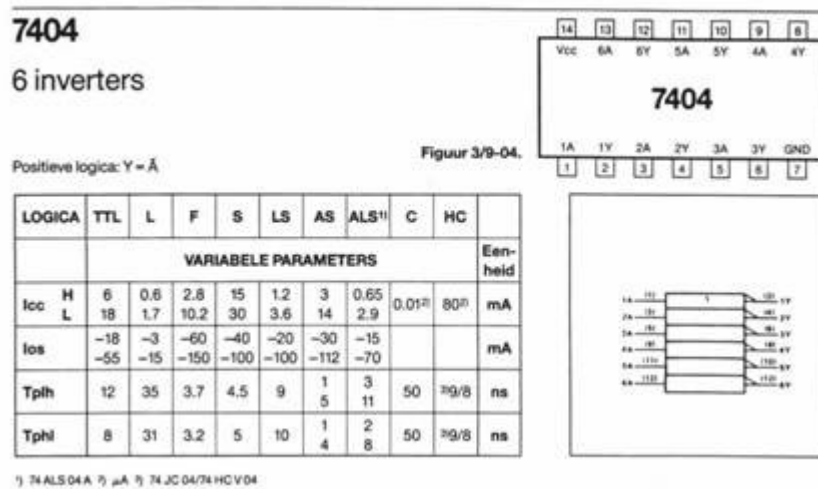

Figure 8: 7404 IC specifications.
1. Insert the 7404 IC chip into the breadboard and provide power and ground to the chip. *Figure 8* shows some general specifications for the 7404 class of IC's, which contain 6 inverter logical gates.